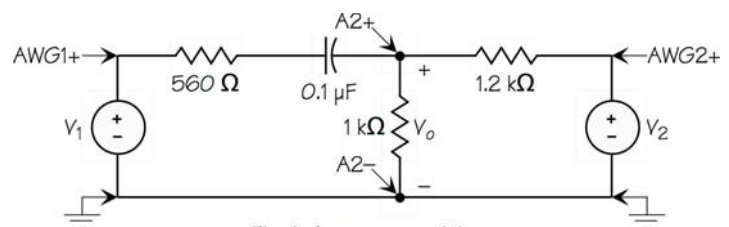

Fig. 1-A-c superposition
1. Build the circuit of Fig. 1. Connect the clip leads of the Red Board as follows: